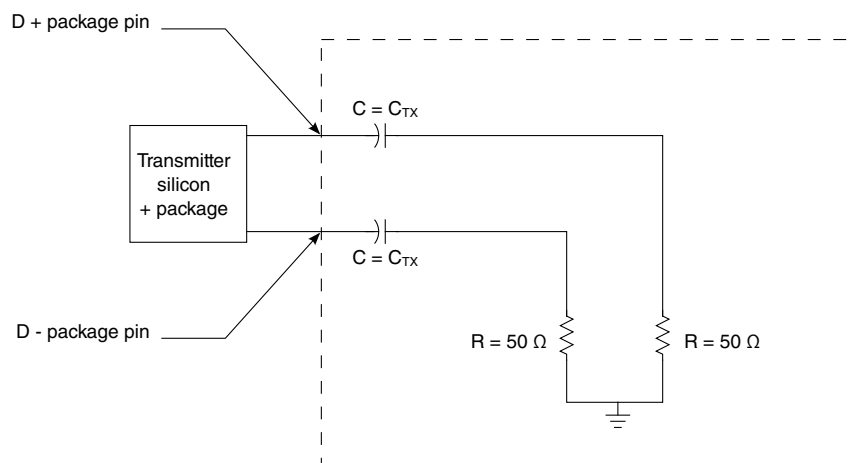

Figure 82. Test and measurement load
- Specified at the measurement point into a timing and voltage test load as shown in Figure 82 and measured over any 250 consecutive transmitter UIs.
2. Specified at the measurement point into a timing and voltage test load as shown in Figure 82 and measured over any 250 consecutive transmitter UIs.
- Specified at the measurement point and measured over any 250 consecutive UIs. The test load in Figure 82 must be used as the receiver device when taking measurements. If the clocks to the receiver and transmitter are not derived from the same reference clock, the transmitter UI recovered from 3500 consecutive UI must be used as a reference for the eye diagram.